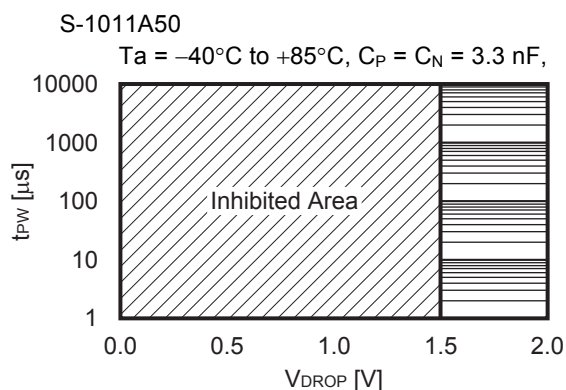
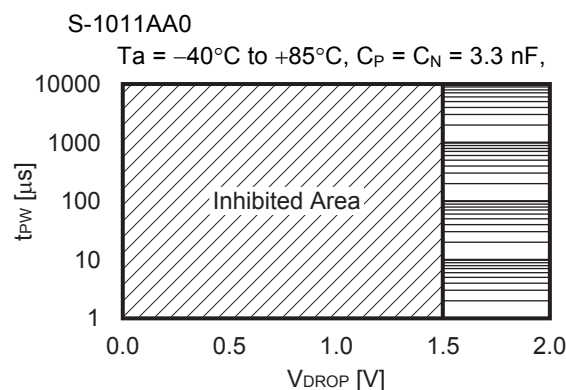

Figure 40
Figure 41
Figure 40 and **Figure 41** show the relation between pulse width (t_{PW}) and V_{DD} lower limit (V_{DROP}) where a release signal can be output after the normal release delay time has elapsed when the V_{DD} pin (V_{DD} detection product) instantaneously drops to the detection voltage ($-V_{DET}$) or lower and then increases to the release voltage ($+V_{DET}$) or higher during release delay time.
- Figure 40 and Figure 41 show the input voltage conditions when a release signal is output after the normal release delay time has elapsed. When this is within the inhibited area, release may erroneously be executed before the delay time completes.
- When the V_{DD} pin voltage is within the inhibited areas shown in Figure 40 and Figure 41 during release delay time, input 0 V to the V_{DD} pin then restart the S-1011 Series.